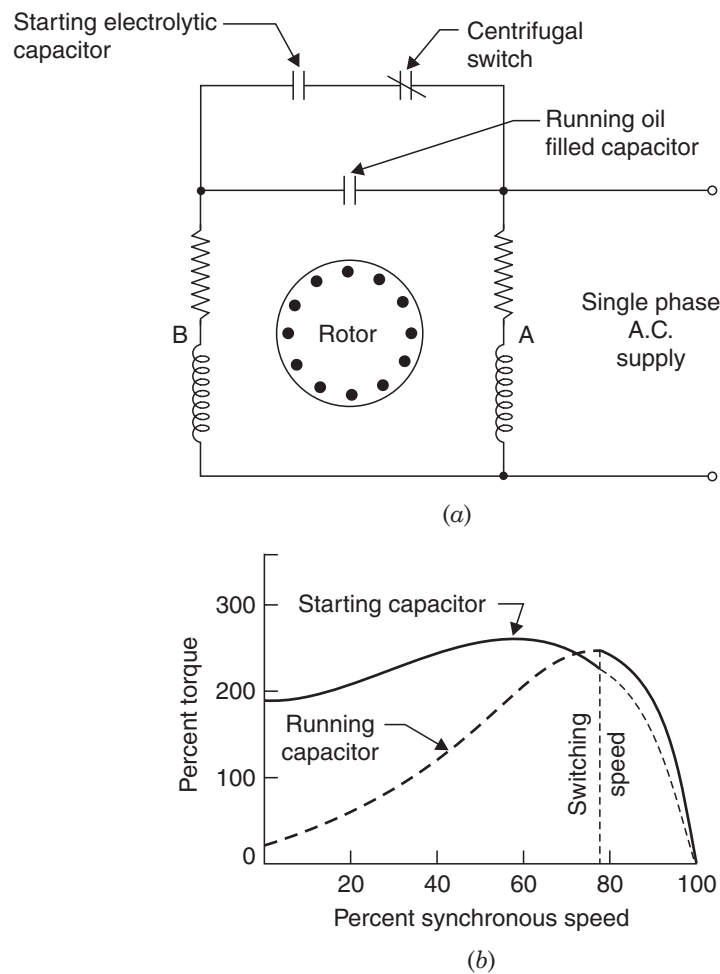

Fig. 6. Connection diagram for two-value capacitor motor and typical torque-speed characteristic.
- Refer Figs. 6 and 7. *The two-value capacitor motor combines the quiet operation and limited speed control advantages of a running permanent-split capacitor with high starting torque of the capacitor-start motor.*
- Two capacitors (Fig. 6) are employed during the starting period. One of these, an electrolytic starting capacitor, similar to that used for the intermittent duty of the capacitor-start split-phase motor, is of fairly high capacity (about 10 to 15 times the value of the running capacitor) and is cut out of the circuit by a centrifugal switch when slip reaches about 25 per cent.